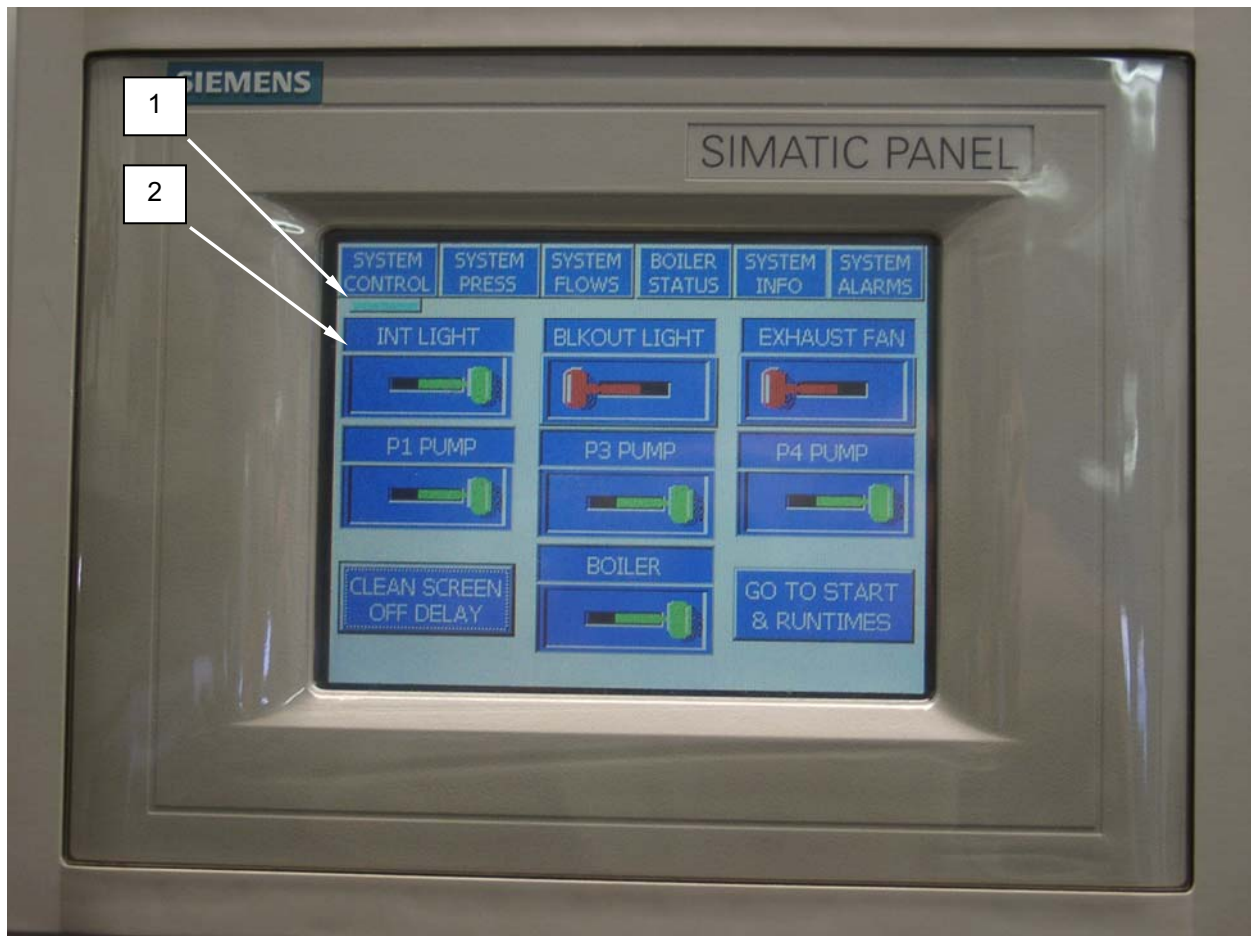

Figure 3. Operate the Interior Lighting.
1. Ensure the SYSTEM CONTROL (**Figure 3, Item 1**) screen is displayed.
2. Turn the INT LIGHT switch (**Figure 3, Item 2**) to the ON position. The switch will turn green when the switch is ON and red when the switch is OFF.